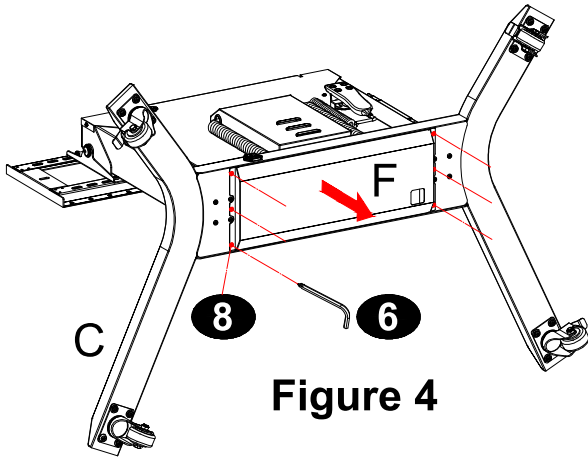

Figure 4
1)Remove the cover plate (F) at the bottom of the base (C) and the inside wire locking plate (G) , as Figures 4 and 5.